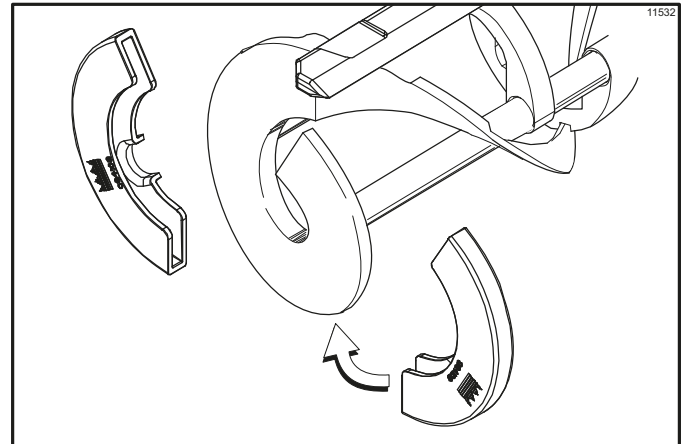

Figure 6-6
- If the shoes are in good condition, install the beater shoes. (See Figure 6-6.)